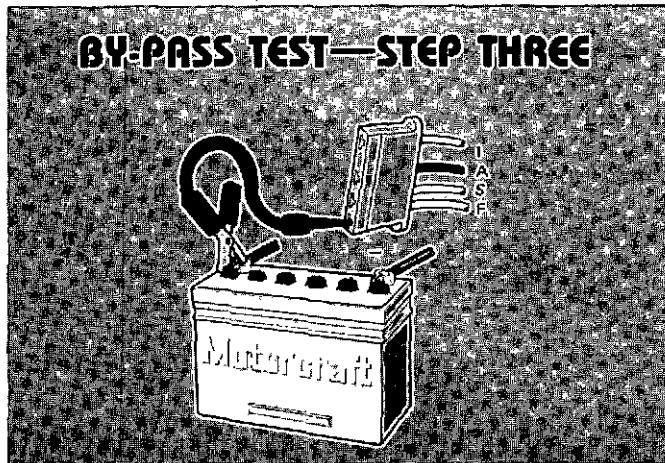

FIGURE 51 REGULATOR BY-PASS TEST — STEP THREE
For step three of the Bypass Test, (Figure 51) connect a jumper wire between the positive battery post and field (F) terminal on the connector plug. This will bypass the A circuit wiring as well as the regulator. Run the engine at 2000 RPM. Turn on your electrical accessories as you did for the Load Voltage Test. If the voltage at the battery is now more than $\frac{1}{2}$ volt above the base voltage, repair the open in the "A" circuit and recheck with the three point tests. If the voltmeter still reads base voltage you should perform the wiring harness test.